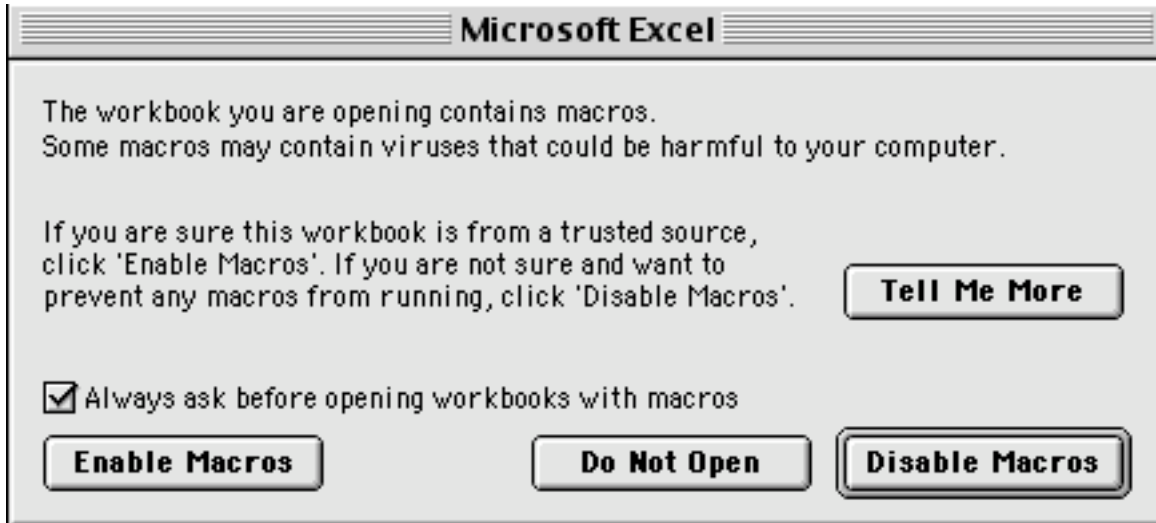

Figure 2
- Open the file named “Random Error.” As it opens, you will see the window shown in Figure 2